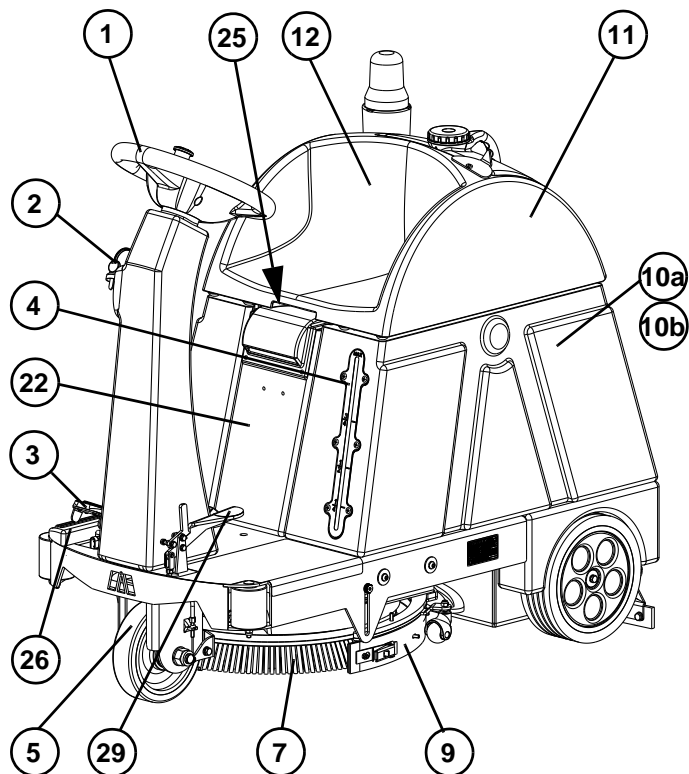
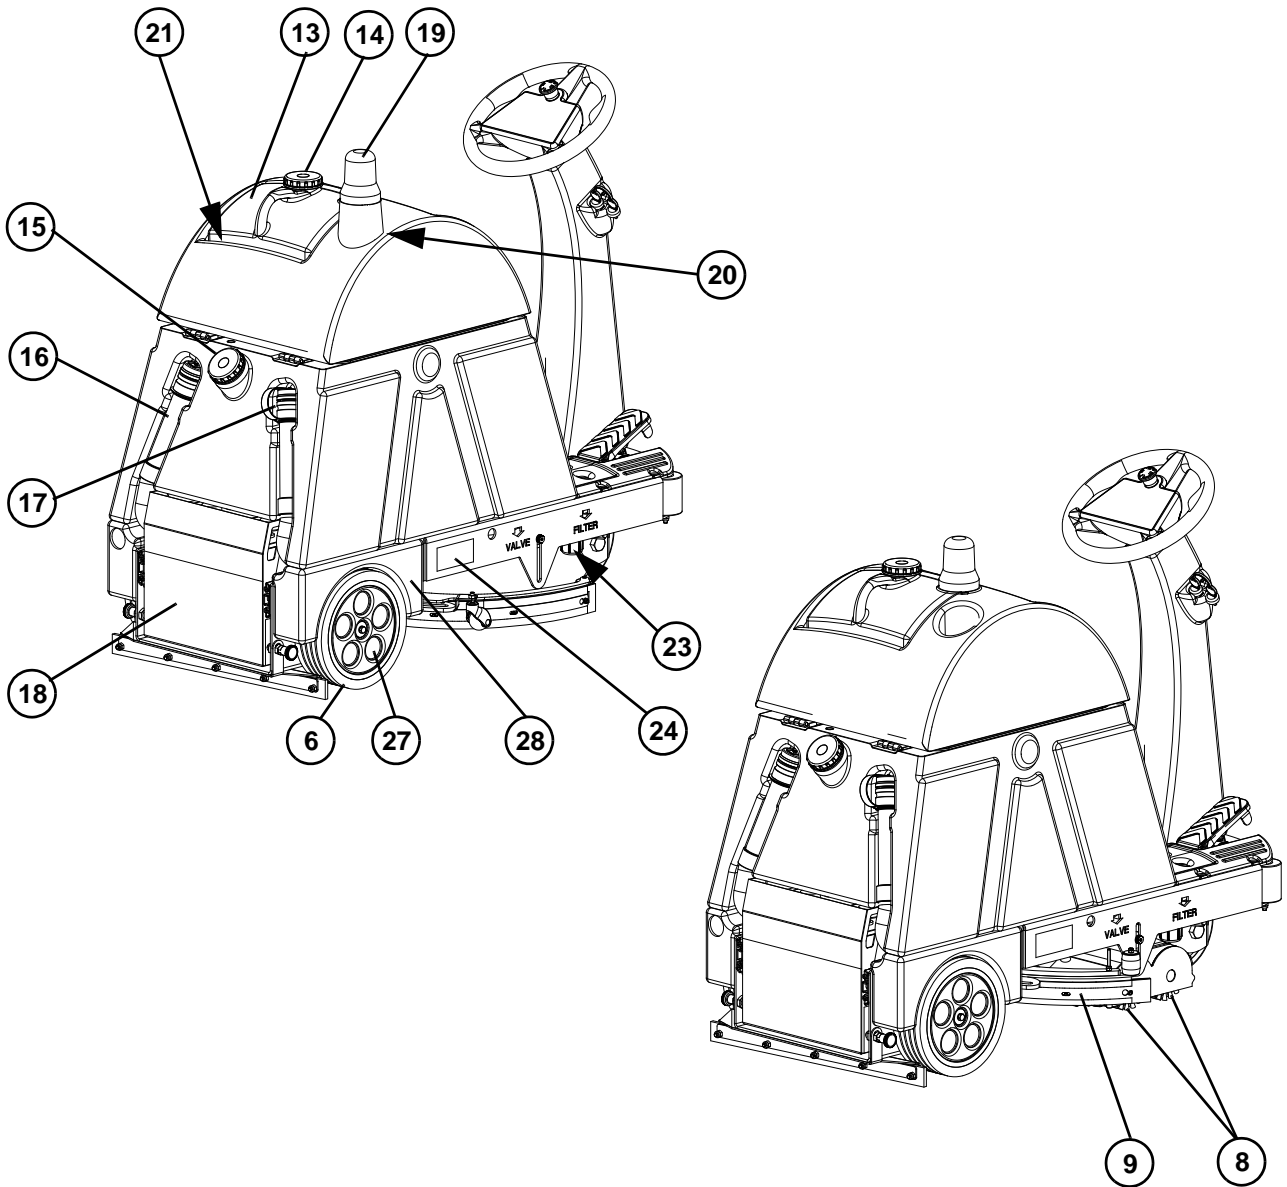

Figure 3-2
Figure 3-3
Forward, backward, front, rear, left or right are intended with reference to the operator's position with the operator's hands on the handlebar (12, **Figure 3-2**).
(See Figure 3-2 and Figure 3-3)
- The following fuse (22, **Figure 3-2**) is placed under the panel:
- with heel cushion (26, **Figure 3-2**)
- with wheel covers for rear wheels (27, **Figure 3-3**)
- with wings for rear wheels (28, **Figure 3-3**)